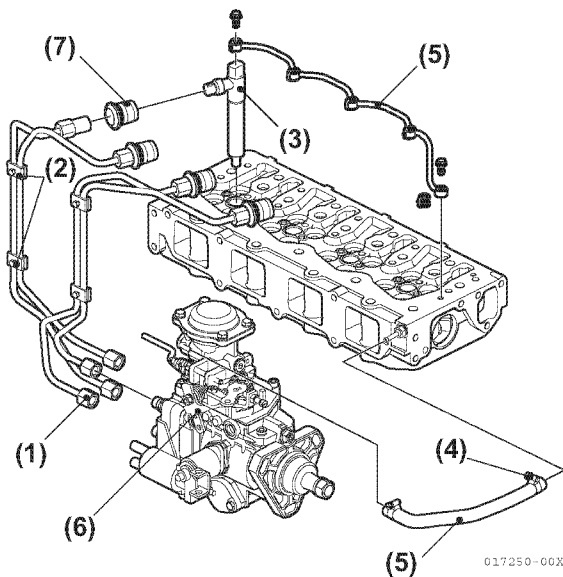

Figure 6-9
4. Remove return fuel line from fuel injection nozzle (**Figure 6-9, (4)**).
5. Remove the bolt retaining the fuel injection nozzle. Remove fuel injection nozzle (**Figure 6-9, (3)**). See *Remove the fuel injection line (Figure 5-32) thru (Figure 5-34): on page 5-40.*